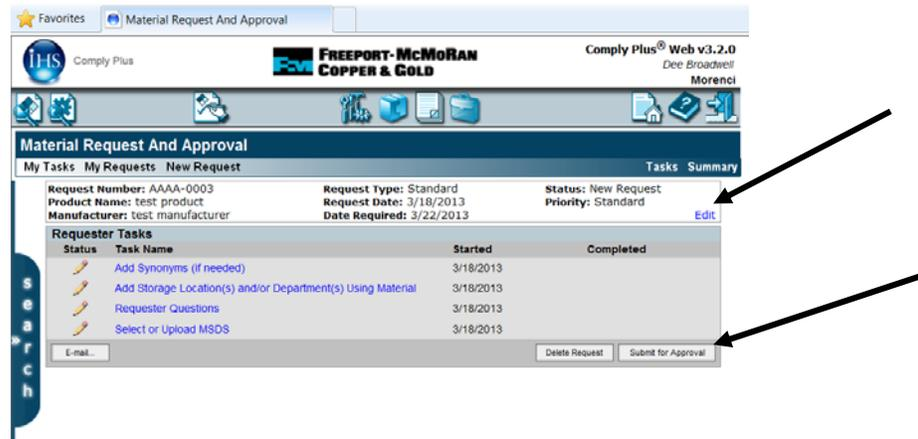

Figure 13
9. If the Header information needs editing click “Edit” at the right to update information (see Figure 13).
10. When all required information has been added to the Product Request, click “Submit for Approval” button (see Figure 13).